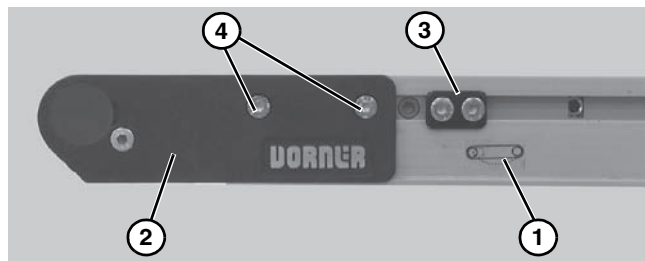

Figure 28
4. On tension end of the conveyor, identified with a  label (**Figure 28, item 1**), push in head plate assembly (**Figure 28, item 2**): On both sides of conveyor, loosen and move cam tracking assemblies (**Figure 28, item 3**) (if equipped) away from head plates, then loosen fastening screws (**Figure 28, item 4**) and push head plate assembly inward.